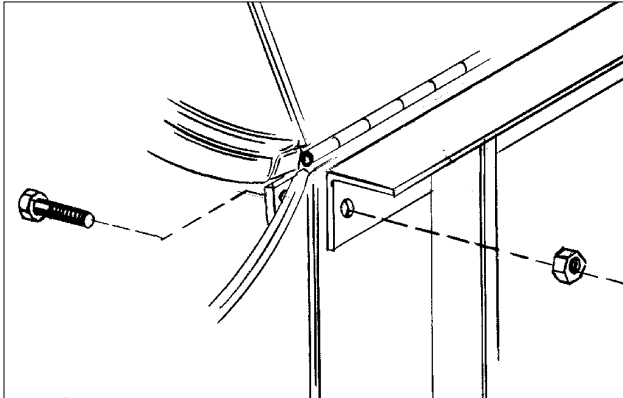

Figure 4 – Secure Enclosure to horizontal bracket
19. Secure the Enclosure to the horizontal bracket by replacing the bolts and nuts removed in step 18, this time including the horizontal bracket in the process (fig. 4). Do not tighten.